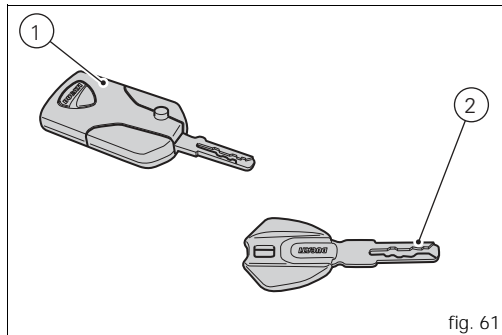

fig. 61
Keys (fig. 61)
- 1 active key (1, fig. 61)
- 1 passive key (2, fig. 61)
Do not ride with the key (1 or 2, fig. 61) inserted in the lock of the tank cap or in the seat lock as it could come out and represent a potential danger. Furthermore, if bumped, the key mechanism and the integrated circuit could be damaged.